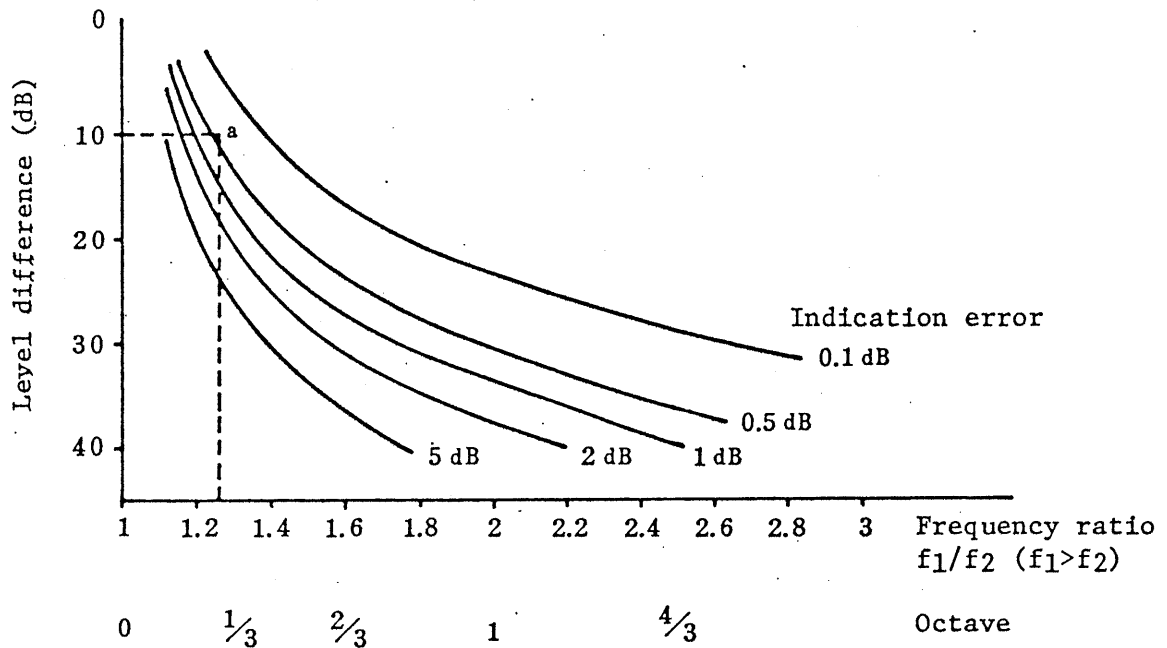

Figure 7
The above relationships are shown in Figure 7.
On the curves of Figure 7, error for the case of (B) (b) can be found as follows.
When close frequencies are selected or when the equipment to be tested has sharp frequency response characteristics, see the curves of Figure 7.